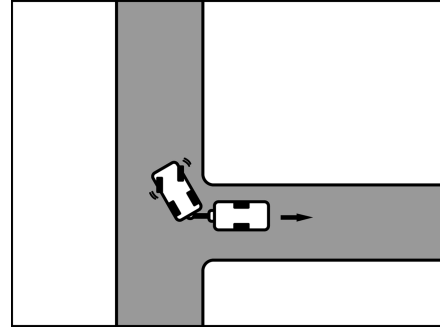

Fig. 12 Steer to the right
- Turn the steering wheel to the right and reverse with caution (Bild 12).